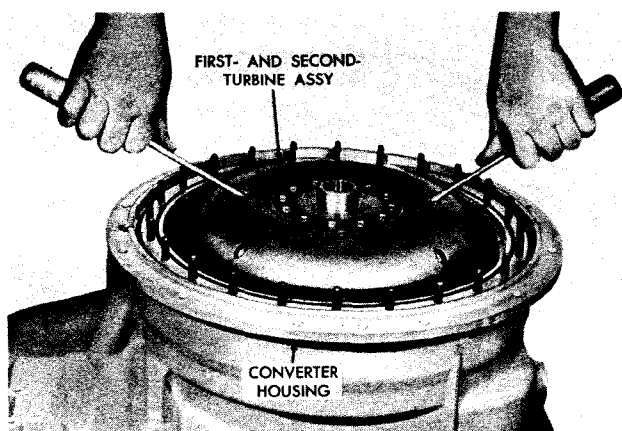

Fig. V-12. Removing first- and second-turbine assembly
(1) Using two screwdrivers, remove first and second turbine assembly (fig. V-12).